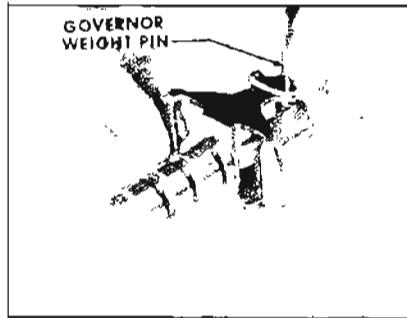

Figure 5-252
6. Install governor weight pins. See Figure 5-252.